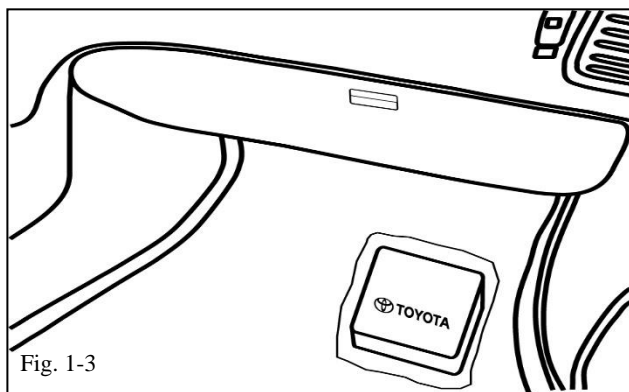

Fig. 1-3
- (1) Place the First Aid Kit on the passenger front floor of the vehicle (Fig. 1-3).